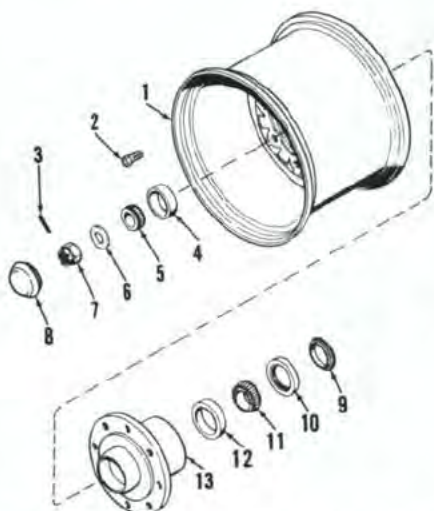

Fig. 1—Exploded view of wheel hub and bearing assembly used on all models.
1. Refer to Fig. 1 for typical wheel hub and bearing assembly.